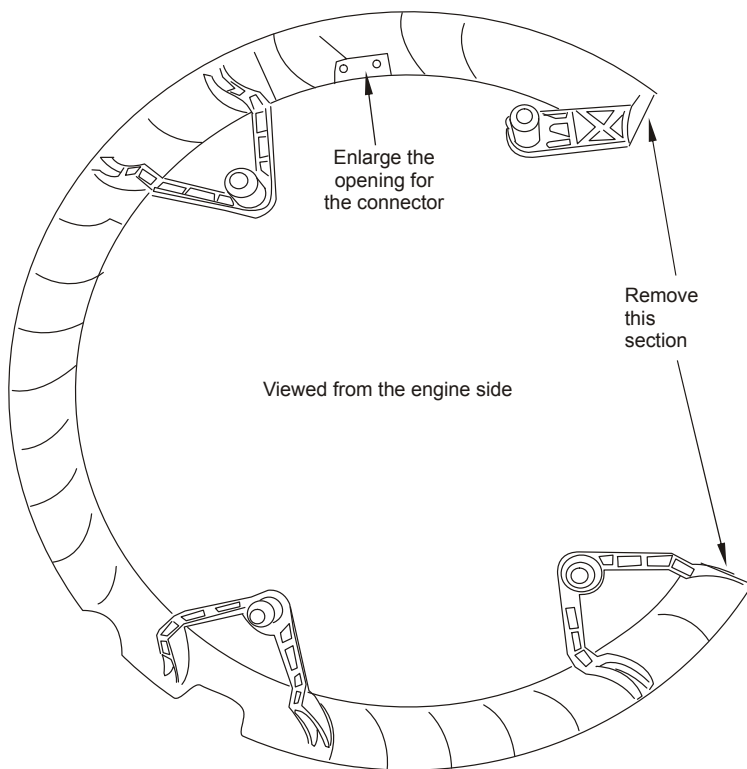

Figure 4.7
- Modify the fan stator by cutting out a section (Figure 4.7) and enlarging the hole at the top so that the connector will fit through the opening.